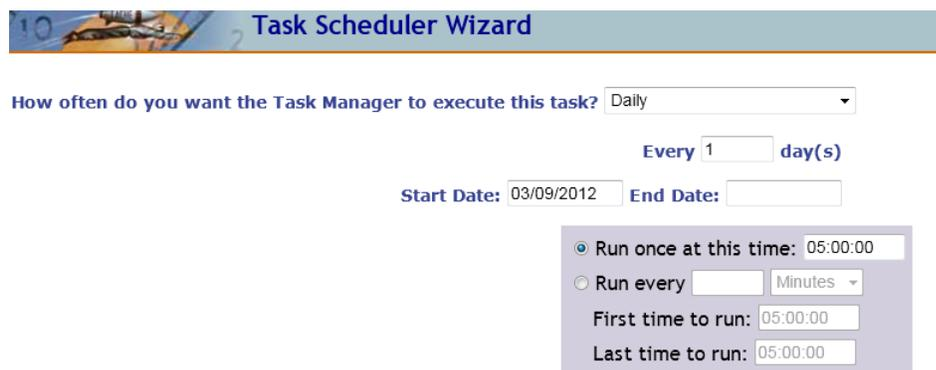

Figure 5-10: Task Scheduler Wizard dialog
4. Click **Next** to display the Task Scheduler Wizard (Figure 5-10).